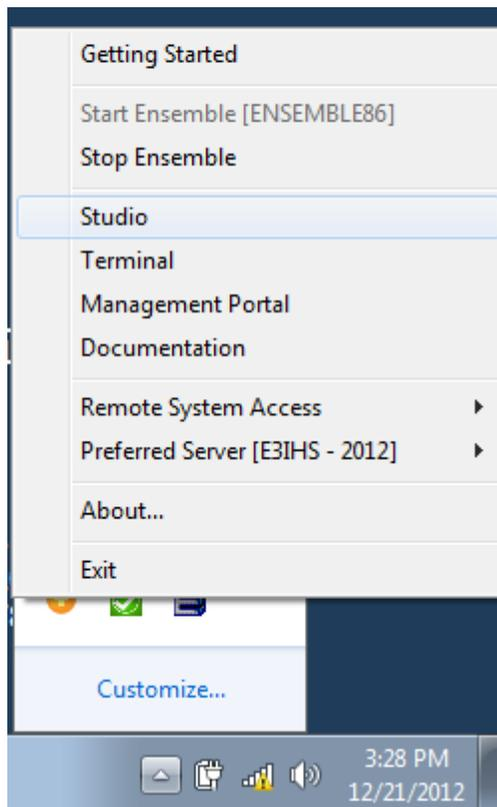

Figure 4-18: Opening **Studio**
1. Click the **Ensemble cube** in the system tray (at the right end of the Windows taskbar) and click **Studio**, as shown in Figure 4-18. A login ID and password may be required.